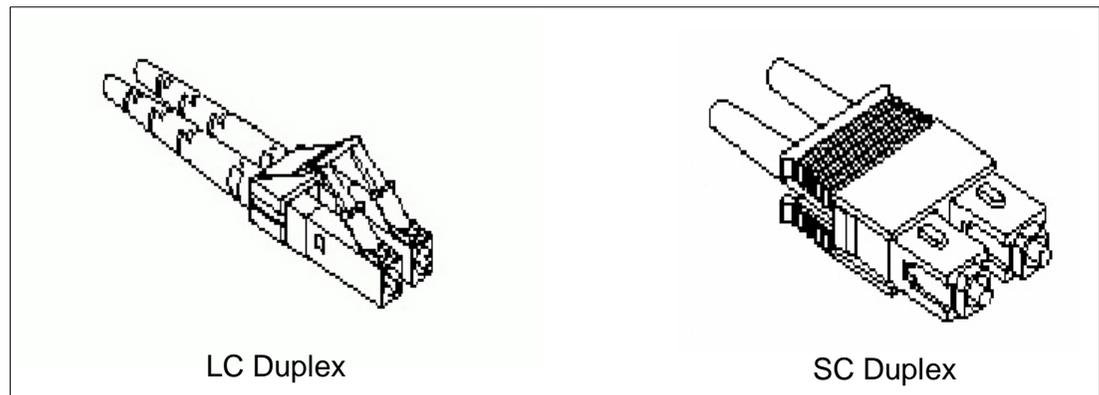

Figure 9 Fiber cable connector types
The FICON features 2315 (LX) and 2318 (SX) have SC Duplex port types, and the FICON Express features 2319 (LX) and 2320 (SX) have LC Duplex port types. Figure 9 shows the fiber cable connector types needed for these features.